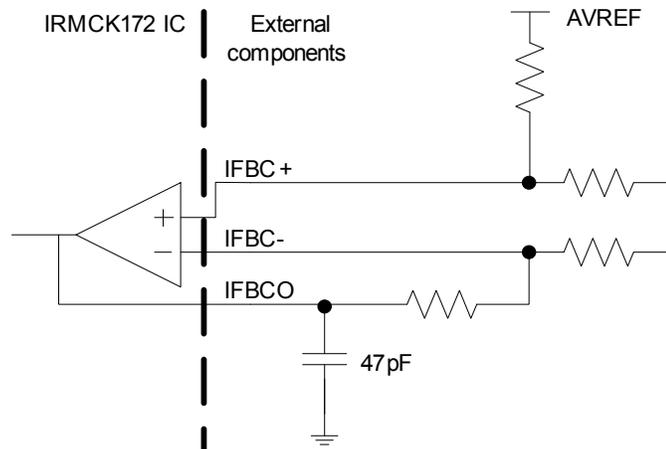

Figure 4 A capacitor of 47pF is recommended at the output pin of all op amps.
(1) Data guaranteed by design.
(2) To guarantee stability of the operational amplifier, it is recommended to load the output pin by a capacitor of 47pF, see Figure 4. Here only the single shunt current amplifier is show but all op amp outputs should be loaded with this capacitor.